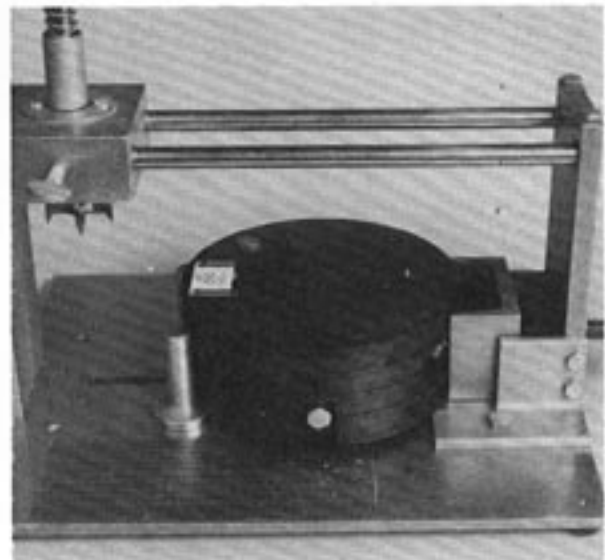

FIGURE 9 - POSITIONING END PLATE
- 5.05 Place End Plate with seam (Figure 9), parallel to guide rods and hand tighten screws.
NOTE: The holes must cut along the seam of the End Plate halves and within the outer dimensional marks indicated by the arrows (Figures 9, 9a).